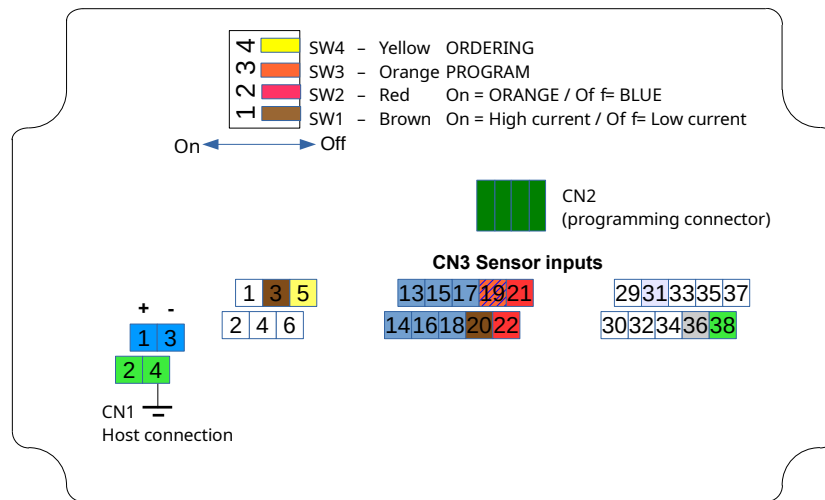

Figure 2: Connection of VITO LT probes
CN1-4 (see Figure 2: Connection of VITO LT probes) to the enclosure may need to be temporarily disconnected.
- Connect VITO LT probes according to Figure 2: Connection of VITO LT probes.